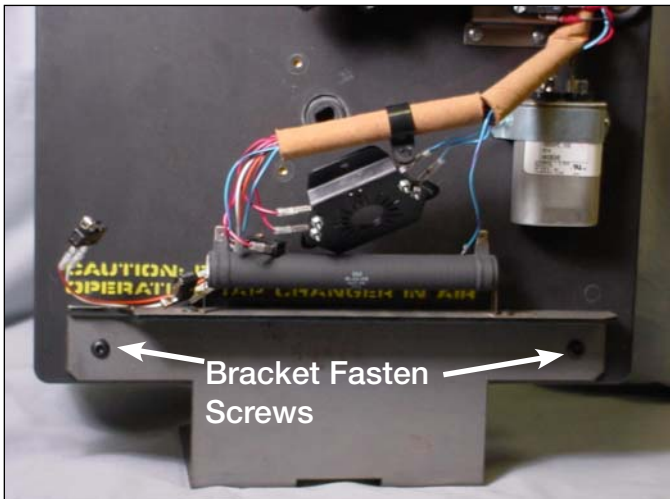

Figure 13.
6. Use a 5/32 Allen wrench to loosen and remove the two pan head Allen screws from the tap changer-mounting bracket. See Figure 13.